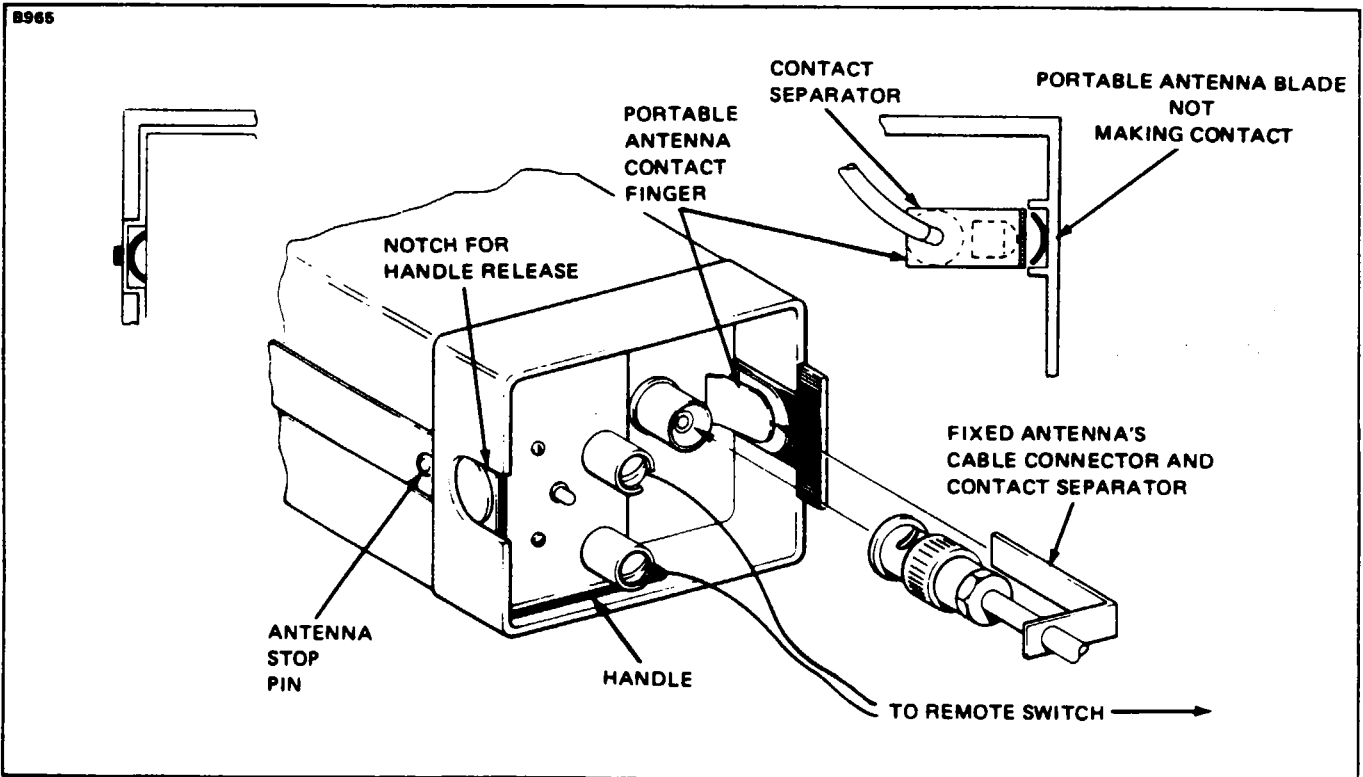

Figure 12-7. ELT Using Fixed Aircraft Antenna (Narco)
- l. Connect the antenna coaxial cable to the ELT and ensure that the contact separator is inserted between the antenna contact finger and the portable antenna. (Refer to Figure 12-7.)